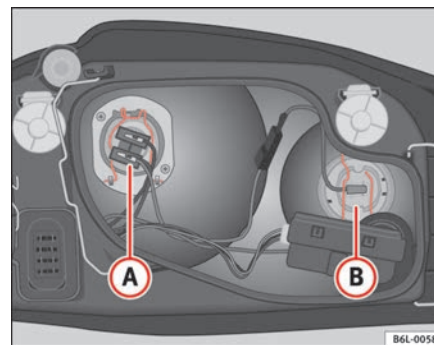

Fig. 143 Dipped headlight lamp
- Remove the lamp cable connector ① ⇒ fig. 143.